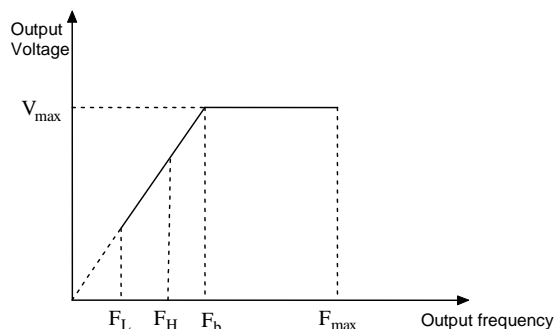

Fig.6-1 Characteristic parameters
Max output frequency is the highest permissible output frequency of the drive, as shown in Fig. 6-1 as F_{max} ;
Max output voltage is the highest permissible output voltage of the drive, as shown in Fig. 6-1 as V_{max}
Upper limit of frequency is the highest permissible operating frequency of the user setting, as shown in Fig. 6-1 as F_H .
Lower limit of frequency is the lowest permissible operating frequency of the user setting,as shown in Fig.6-1 as F_L .
Basic operating frequency is the Min. frequency when the drive outputs the max voltage in V/F mode, as shown in Fig. 6-1 as F_b
4. The Max. output frequency,upper limit frequency and lower limit frequency is as shown in Fig.6-1.